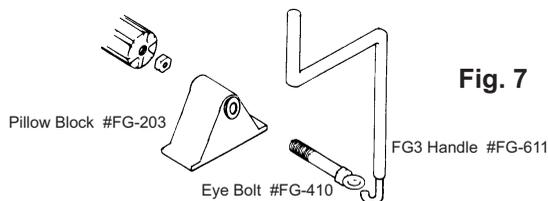

Fig. 7
- C. Wind the eye bolt fully into the tube end plug at the handle side. Using a wrench, tighten the nut **against the tube plug** (see Fig. 7).